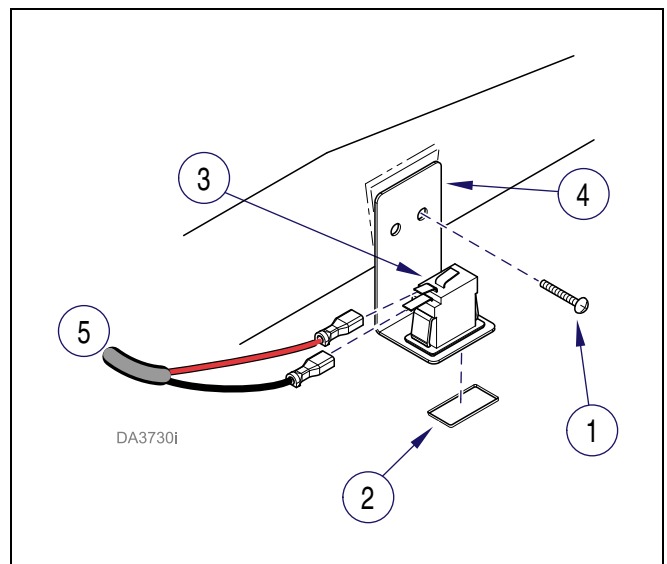

Figure 4-24. Safety Bail Limit Switch.
- (1) Unplug chair power cord.
- (2) Remove covers (refer to para. 4.3).
- (3) Disconnect wire harness (1, Fig. 4-24).
- (4) Remove two screws (1), plate (2), and safety bail limit switch (3) from mounting bracket (4).
- (1) Place limit switch (4, Fig. 4-24) on mounting bracket (4) and secure with plate (2).
- (2) Attach wire harness (5) as shown.
- (1) Place a light coating of silicon on hydroglide pins (A, Fig. 4-24). Install wheel halves (10) and push nuts (9).
- (2) Place a light coating of silicon on ends of roller shaft (4). Install chairseat rollers (3) and push nuts (2).
- (3) Insert lift bars and roller shaft assembly (7) between wheel halves (10) of hydroglide frame assembly (8).